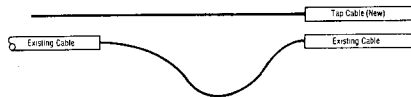

Fig. 33—Appropriate free conductor length.
- a. Open existing cable and tap cable (new) providing appropriate free conductor length and slack according to standard MS2 procedures for half tapping. See Figure 33.